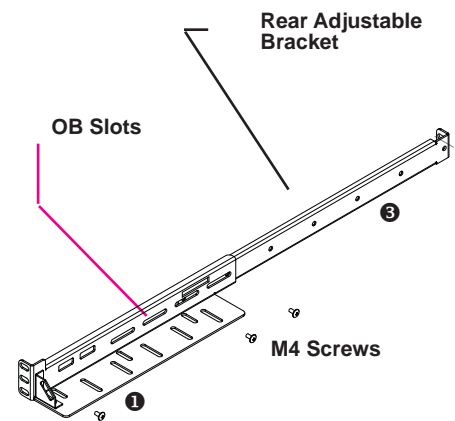
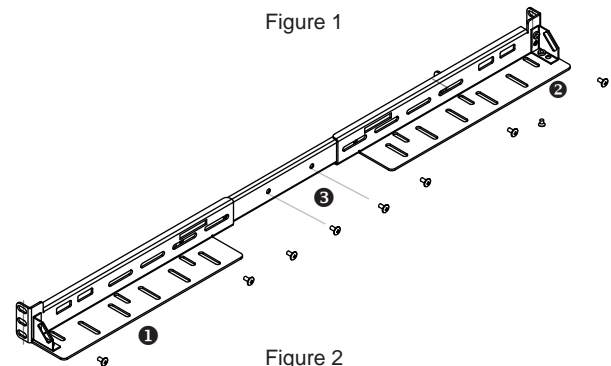
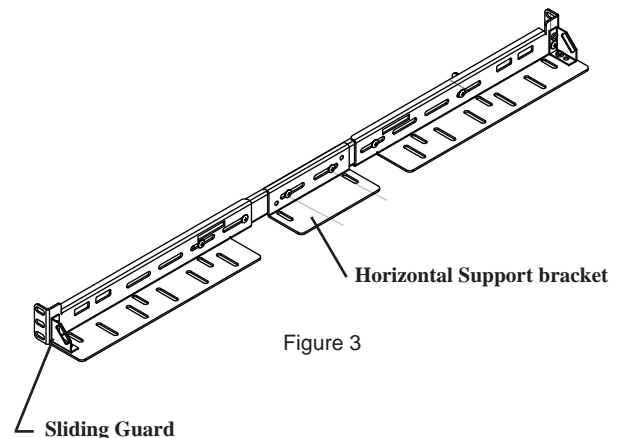

Figure 1
Figure 2
Figure 3
Step 1. Left side setup. Place RSF1120 Left front bracket ❶ on a flat surface. Place RSF1120 Rear adjustable bracket ❸ behind RSF1120 Left front bracket ❶ as shown on Figure 1.
Step 2. Align any 2 screw holes combination on Rear bracket ❸ with any open OB slots on Left front bracket ❶. (Note: 2 screw holes are required for proper weight support. If you cannot align all 2 screw holes with any open OB slots, 1 screw hole is acceptable only with lightweight equipment.)
Step 3. Screw in (2) M4 Screws into screw holes on Rear Bracket ❸ but not to tighten them yet.
Step 4. Place Right front bracket ❷ at the rear of Rear bracket ❸ as shown on Figure 2.
Step 5. Align any 2 screw holes combination on Rear bracket ❸ with any open OB slots on Right front bracket ❷. Secure them with (2) M4 screws.
Step 7. Secure front side of RSF1120 Left front bracket assembly into your 4 post rack first. Adjust rear bracket's ❷ depth as needed. Secure the rear bracket to your rack. Repeat same process for Right front bracket assembly.
Step 8. Tighten all (4) M4 Screws on both right and left side assembly (Figure 3) to complete this installation.
Optional. If you need addition support in the center area, you can install Horizontal support bracket as show on Figure 3.